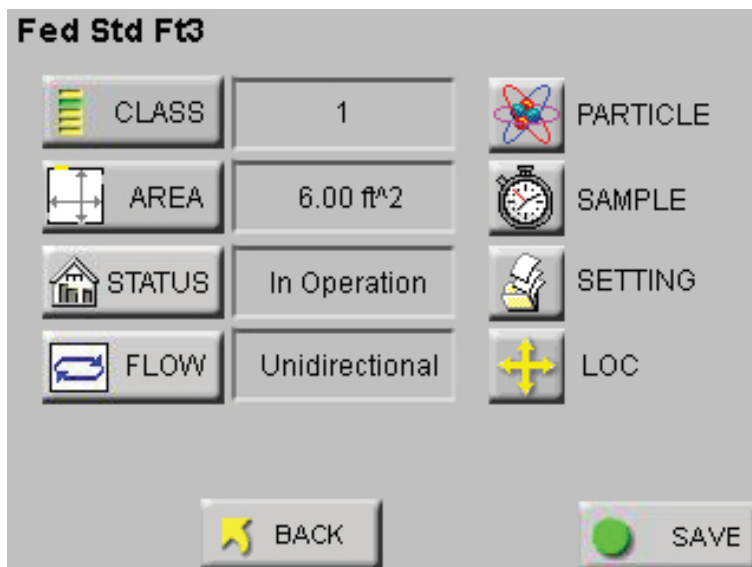

Figure 6-86 Configure the Instrument
- The SETUP screen shown in Figure 6-86 will display the values that were configured in the display fields.